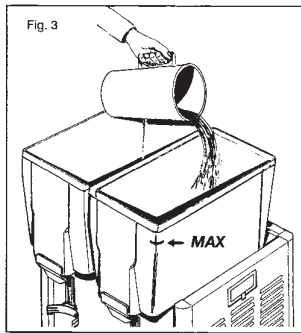

Fig. 3
4. Do not let the liquid level exceed the "MA" level line (FIG. 3).